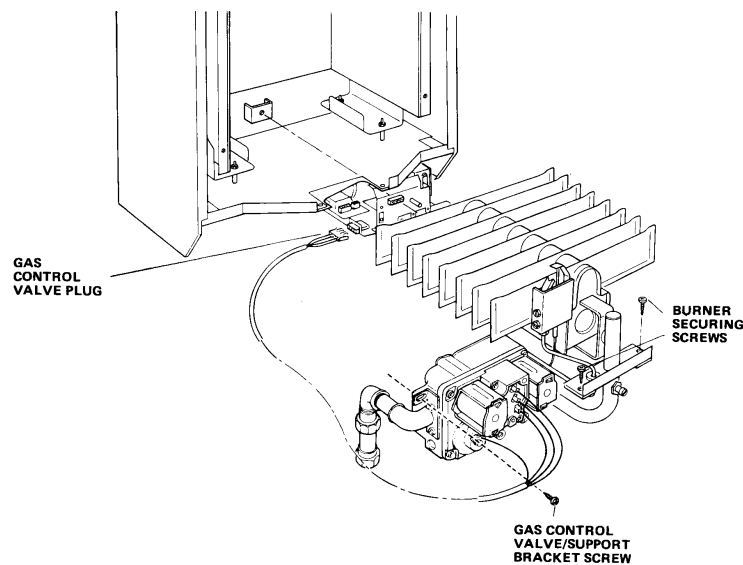

Fig. 29 BURNER AND GAS CONTROL ASSEMBLY
- J. Unplug the electrical supply leads for the gas control valve from the control box. See FIG. 29.
- K. Remove the screw securing the gas control valve to its support bracket. See FIG. 29.